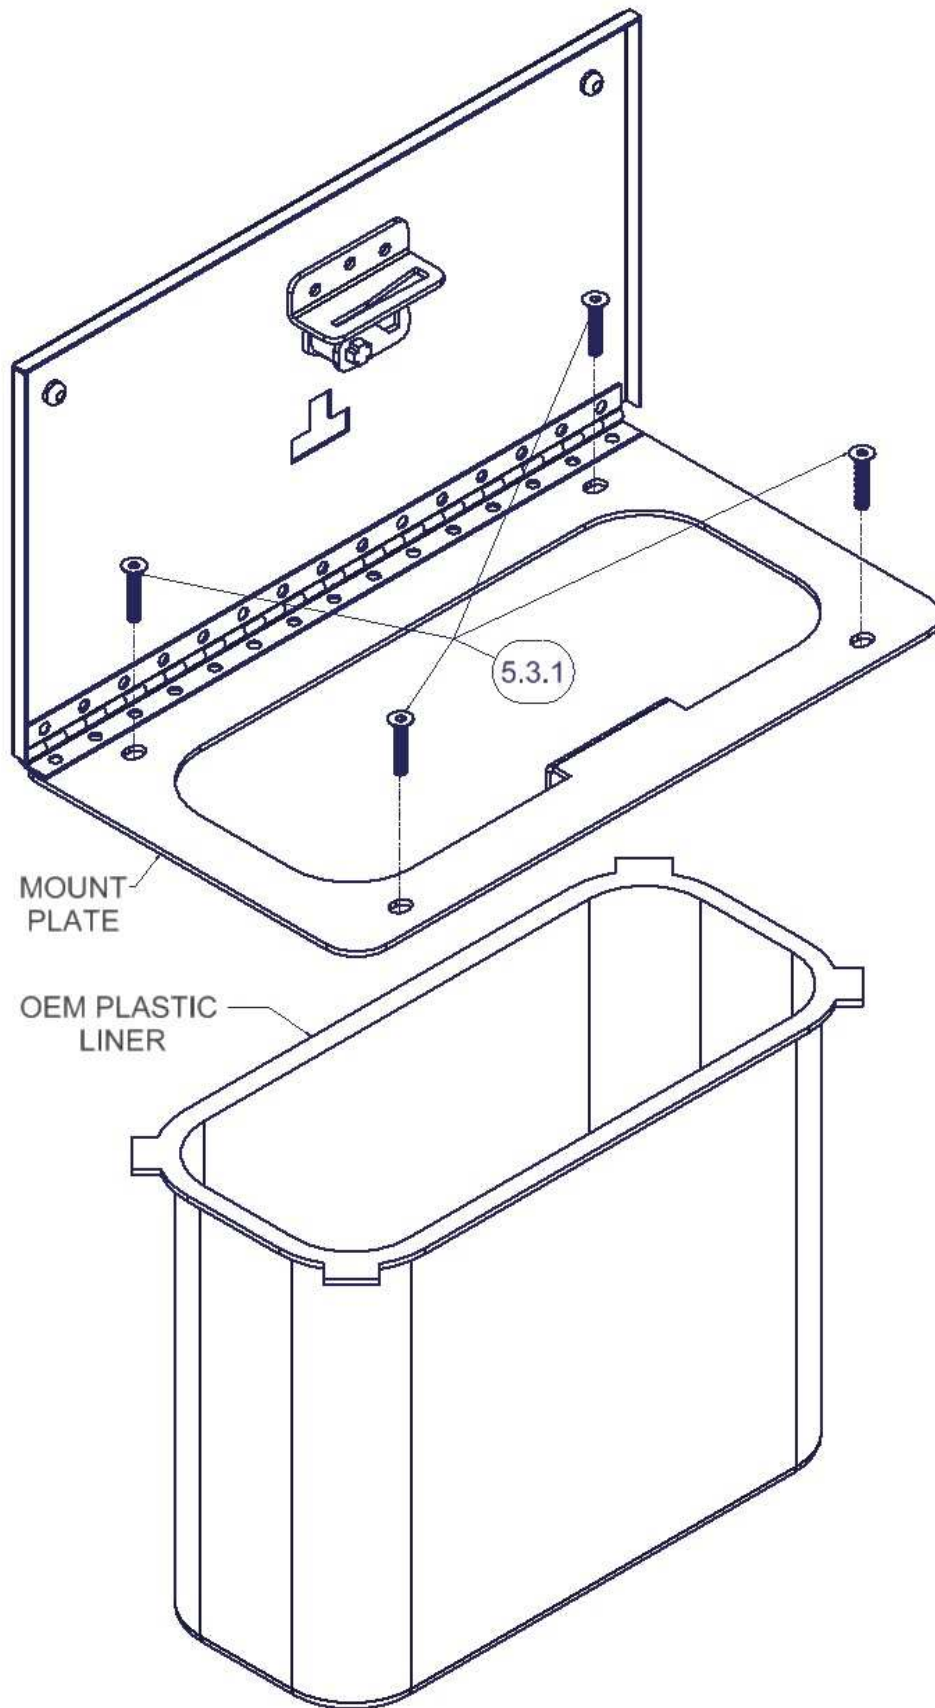

FIGURE 1
3. Using the T-30 Torx wrench, remove the (4) OEM mount bolts located at the corners of the OEM plastic mount plate.
6. Open the #311 Security Lid and place the mount plate over the storage compartment opening. (SEE FIGURE 1)
7. Insert the (4) #5.3.1 6mm Flathead Screws from the shipping package, through the holes in the 1/8" thick #311 mount plate and into the factory mounting holes. (SEE FIGURE 1)
9. Using a 4mm hex wrench tighten the (4) #5.3.1 Flathead Screws to approx. 5 ft-lbs, ensuring that the #311 mount plate rests evenly on the top of the OEM liner.